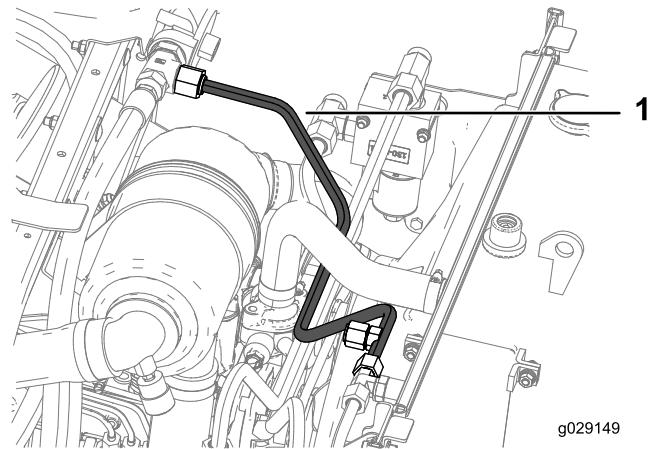

Figure 31
11. Install the hydraulic tube G from the tee fitting (5/8 x 5/8 x 3/4 inch male) on the filter-head assembly to the tee fitting (3/4 x 13/16 inch) near the radiator-fan shroud as shown in Figure 31.